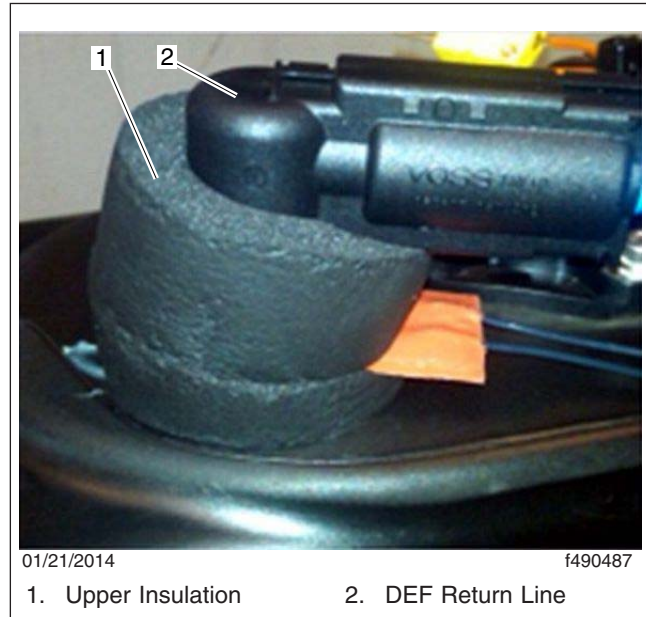

Fig. 3, Installing the Upper Half of the Insulation
9. Install the upper half of the insulation. See Fig. 3